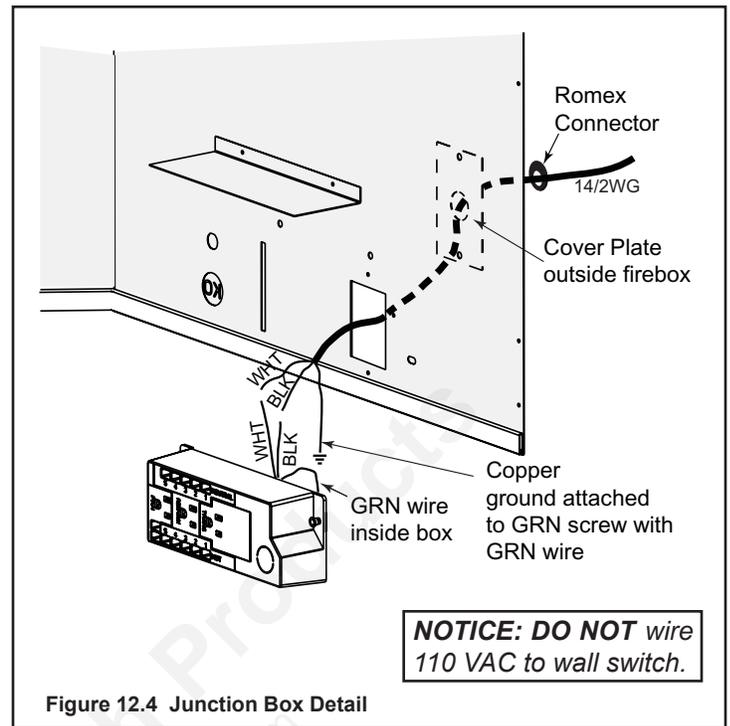

Figure 12.4 Junction Box Detail
- A 110 VAC junction box **MUST** be installed for use with a fan or remote control. See Figure 12.4 for junction box wiring. Keep wire lengths short as possible.
- Remove the screw attaching the junction box/receptacle to the outer shell, rotate the junction box inward to disengage it from the outer shell (see Figure 12.4).
- Pull the electrical wires from outside the appliance through the opening into the valve compartment and secure wires with a Romex connector. See Figure 12.4.